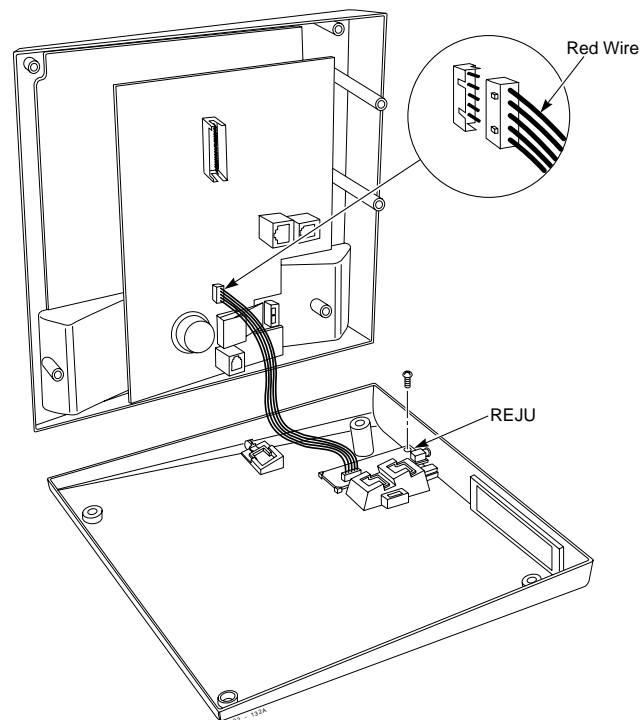

Figure 4-15 INSTALLING THE REJU
4. Install the REJU with the REJU components facing down (Figure 4-15).